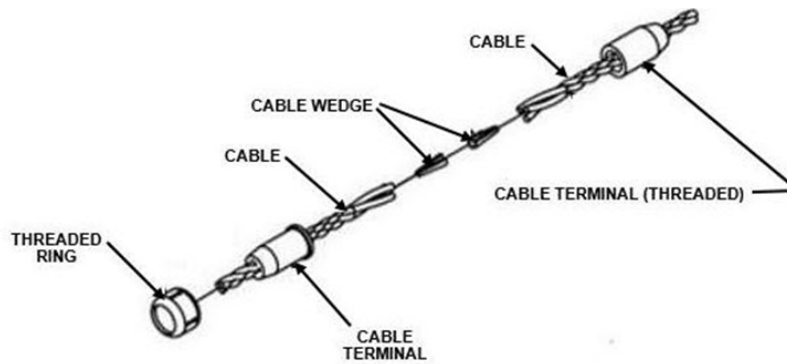

Figure 8
When two cable ends are spliced together other than where spliced with a turnbuckle, a Torpedo Cable Splice can be used. The Torpedo Cable Splice (PN-4099G) assembly is made up of two (2) housings, one of which has threads on it, a threaded ring, and two (2) triangular wedges. See Figure 8.